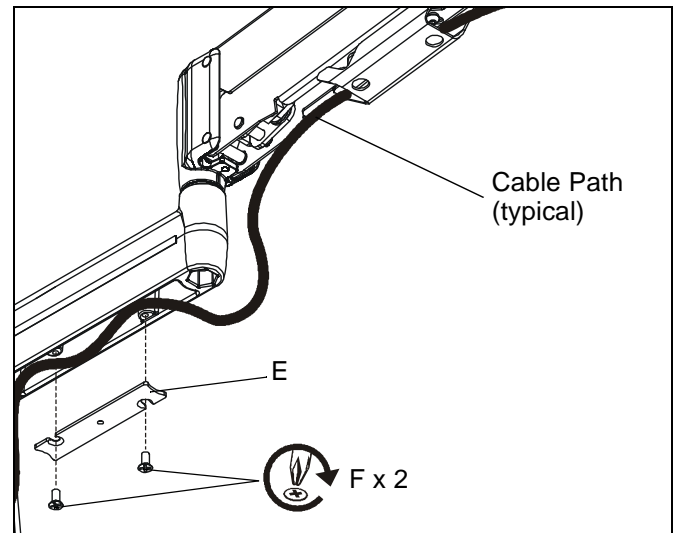

Figure 9
5. Carefully insert cables in cavity located in lower portion of mount arm (See Figure 9).
6. Using Phillips screwdriver, install cover (E) with two screws (F).